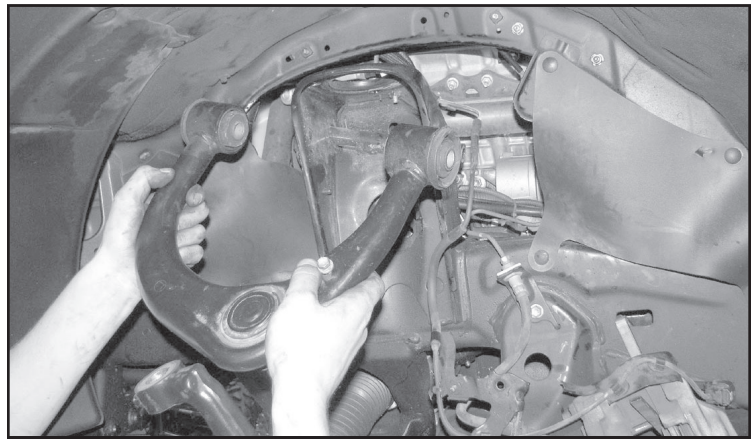

FIGURE 3 - STEP 4
4. Remove the upper control arm and retain the factory hardware. **SEE FIGURE 3**